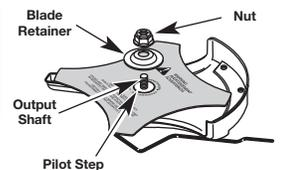

Fig. 10
4. Place the cutting blade on the output shaft bushing (Fig. 10).
5. Make sure that the cutting blade is centered on the pilot step and sitting flat against the output shaft bushing (Fig. 10).
7. Put the blade retainer and nut on the output shaft (Fig. 10). Make sure that the blade is installed correctly.
4. Remove the nut, blade retainer and blade (Fig. 10). Store the nut and blade together for future use in a secure place. Store out of children's reach.